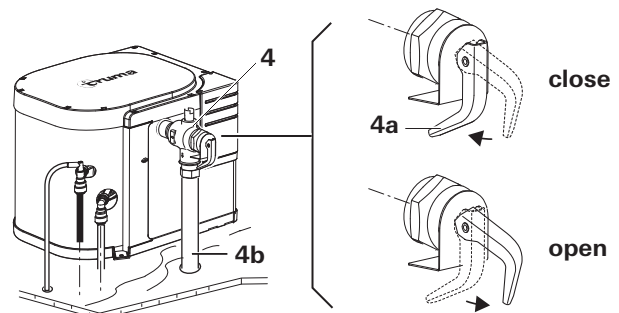

Fig. 2a
Check that the drain valve (3) and the P&T relief valve (Fig. 2a - 4) in the cold water intake are closed.
- Test lever (Fig. 2a - 4a) of the pressure relief valve (4) must be in the "close" position.
- Do not place a plug or reducing coupling in the discharge pipe (Fig. 2a - 4b) of the P&T relief valve.
Allow the appliance to cool and then slowly raise the test lever (Fig. 2a – 4a) to flush the water system and attempt to force dirt or foreign matter out of the P&T relief valve seat.